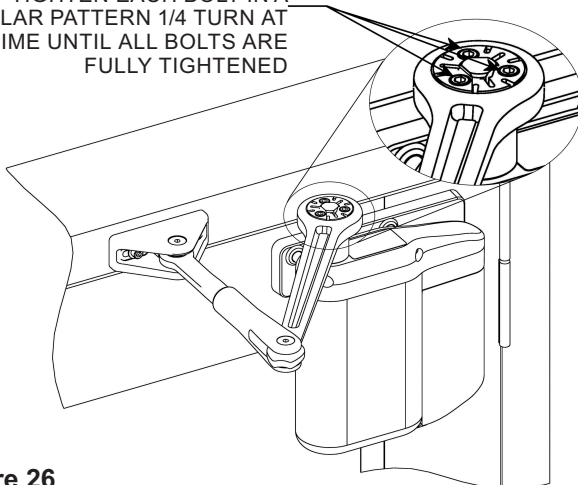

Figure 26
- Refer to Figure 26, and, while maintaining the door arm position, TIGHTEN the door arm coupling screws evenly (one quarter turn at a time) until fully tight.